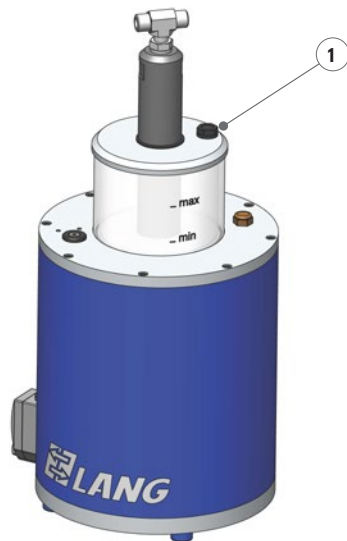

Figure 8: Pneumatic-hydraulic pressure multiplier
2. Unscrew the sealing cap (Pos. ① figure 8) on the oil reservoir of the multiplier.